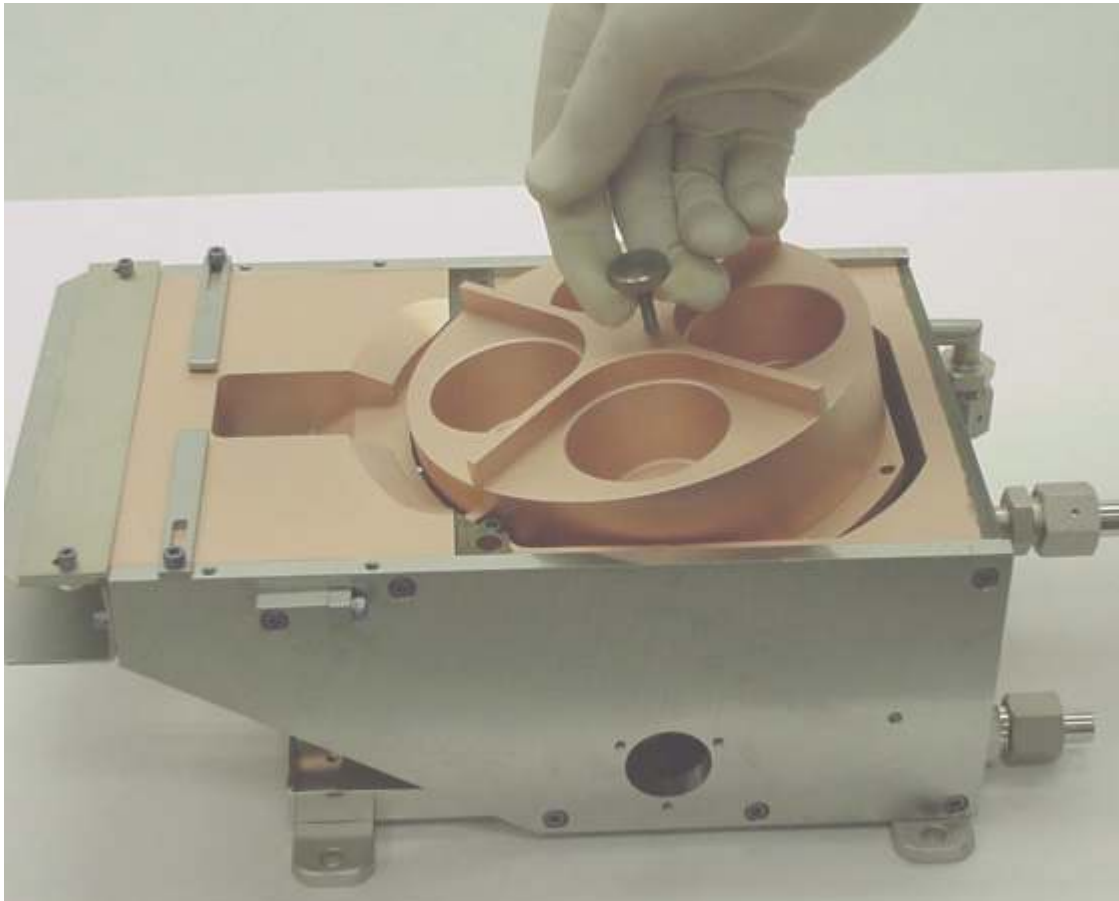

Figure 3-8. Removing the crucible from the source. Note angle of withdrawal
- (c) Pull the crucible clear of the coil housing by angling it upward and backward at the same time, as shown in Figure 3-8. Be very careful at this point not to scrape the crucible's O-ring-sealing surface on the water baffle.
2. Angle the crucible into the position shown in Figure 3-8. Then lower its rear end so that its bottom surface is horizontal, and lower it straight down onto the O-ring.